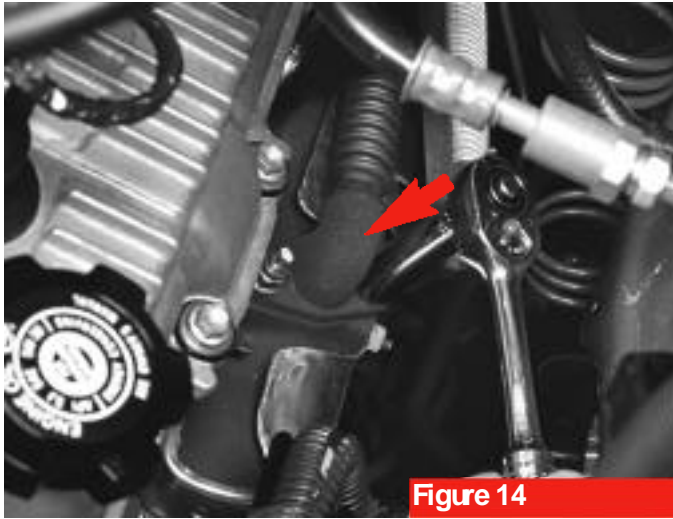

Figure 14
18. A pre-2000 Tacoma or T-100 may be equipped with an EGR valve. To be sure, look for this tube (see arrow, figure 14) on the driver's-side exhaust manifold. Remove the valve according to the procedure in Section 4. Note that the valve will be re-installed later in the installation procedure.